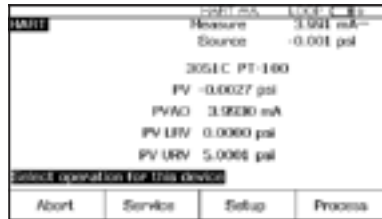

Figure 5.
1. Power on the Fluke 754 Calibrator. Press the red  key followed by the **Loop Power** softkey and the 754 will display the basic HART information for the 3051 (Figure 5).
7. Select **Output Trim** and press **ENTER**. The value of the primary variable (PVAO) is in the upper right corner of the display. (Figure 5). This is normally a 4 mA signal. The mA value, as constantly measured by the Fluke 754, is in the center of the display. Press the **Fetch** softkey to load the measured mA value. Press **Send** to send the value to the 3144 to trim the output section for the 4 mA value. Press **Continue** for the 20 mA trim and repeat this step.